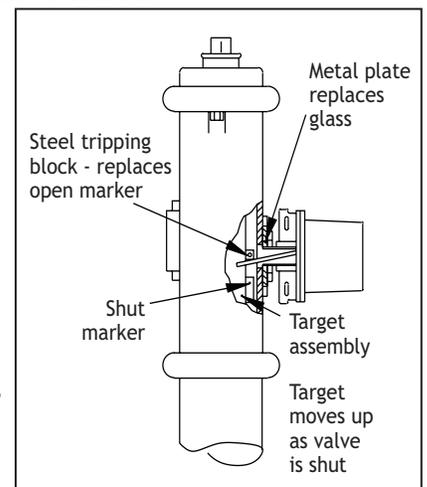

Figure 4: Window Installation
18. Alternative installation for other post indicator valve housing shown in Fig. 4 and 5.
- Option A: Refer to Figure 4. Subject to the approval of the "authority having jurisdiction" the alternate method of installation shown in Fig. 4 may be used. In this method, one of the glass windows of the housing is replaced with a 1/4" thick metal plate that is cut to fit in place of the glass and drilled and tapped to receive the 1/2" NPT pipe nipple. In some cases it may be necessary to attach an angle bracket to the target assembly to engage the PCVS trip rod.